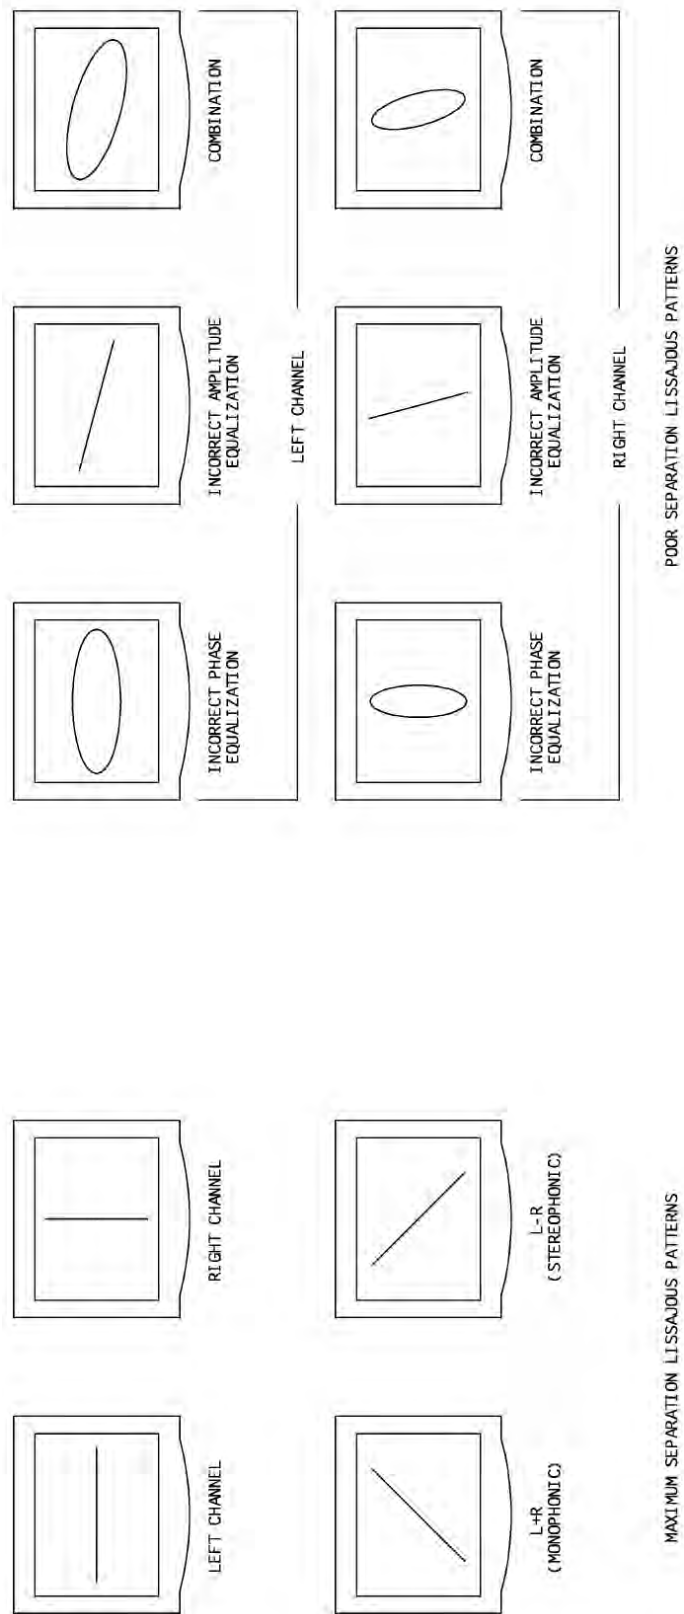

Figure 2-15: Equalization Lissajous Patterns
2. Refer to Figure 2-6 and adjust the left channel level control to obtain a horizontal lissajous pattern (refer to Figure 2-15).
- B. Refer to Figure 2-6 and adjust the left channel delay control to close the oscilloscope display and obtain a straight-line lissajous display as shown in the maximum left channel separation lissajous pattern (refer to Figure 2-15). If the display will not close, proceed as follows:
C. If a maximum left channel lissajous pattern cannot be obtained, refer to Figure 2-6 and adjust the left channel delay control to close the oscilloscope display and obtain a straight-line lissajous pattern (refer to Figure 2-15).